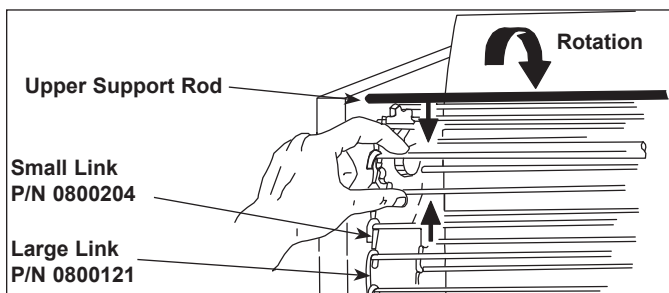

Figure 4. Removing Conveyor Belt
2. Disconnect the Conveyor Belt Chain by squeezing any two links together and unhooking both ends of one link (Figure 4).
2. Place the replacement Conveyor Belt Chain on the top sprockets with hook ends down. Check for correct positioning (Figure 4).
NOTE: The ends of the hooks must point down. (Figure 4).